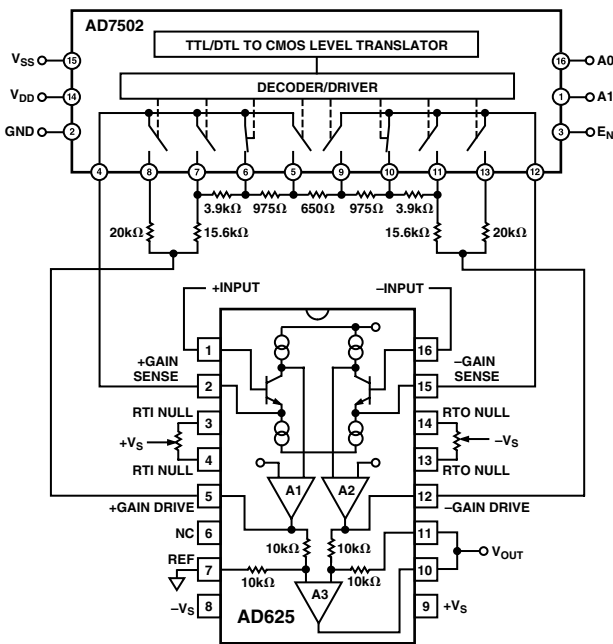

Figure 38. SPGA in a Gain of 16
Figure 38 shows an AD625 based SPGA with possible gains of 1, 4, 16, 64.  $R_G$  equals the resistance between the gain sense lines (Pins 2 and 15) of the AD625. In Figure 38,  $R_G$  equals the sum of the two 975 Ω resistors and the 650 Ω resistor, or 2600 Ω.  $R_F$  equals the resistance between the gain sense and the gain drive pins (Pins 12 and 15, or Pins 2 and 5), that is  $R_F$  equals the 15.6 kΩ resistor plus the 3.9 kΩ resistor, or 19.5 kΩ. The gain, therefore equals:
can be used to calculate the necessary feedback resistors for any set of gains. This formula yields a network with a total resistance of 40 kΩ. A dummy variable (j) serves as a counter to keep a running total of the preceding feedback resistors. To illustrate how the formula can be applied, an example similar to the calculation used for the resistor network in Figure 38 is examined below.
- 2) Before making any calculations it is advised to draw a resistor network similar to the network in Figure 41. The network will have (2 × M) + 1 resistors, where M = number of gains. For Figure 38 M = 3 (4, 16, 64), therefore, the resistor string will have seven resistors (plus the two 20 kΩ “side” resistors for unity gain).
- 5) If different resistor values are desired, all the resistors in the network can be scaled by some convenient factor. However, raising the impedance will increase the RTO errors, lowering the total network resistance below 20 kΩ can result in amplifier instability. More information on this phenomenon is given in the RPGA section of the data sheet. The scale factor will not affect the unity gain feedback resistors. The resistor network in Figure 38 has a scaling factor of 650/625 = 1.04, if this factor is used on  $R_{F_1}$ ,  $R_{F_2}$ ,  $R_{F_3}$ , and  $R_G$ , then the resistor values will match exactly.